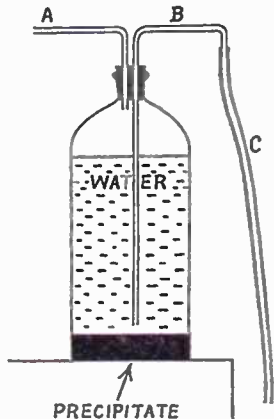

Fig. 2
Much more convenient is to make a simple precipitate washer such as that shown sectionally in Fig. 2. It works on the syphon principle. (A) and (B) are glass tubes; (C) a rubber tube whose lower end must be below the bottom of the bottle.